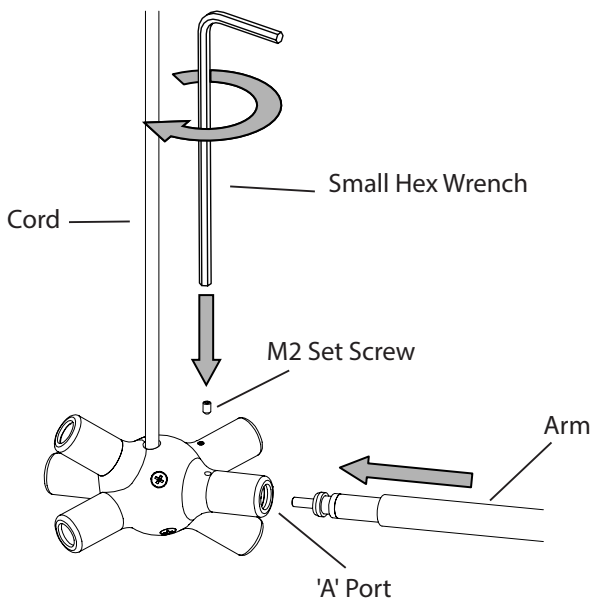

Fig. 2
- Fully insert the C3 Arms into the 'A' ports in the three Connectors (Fig. 2).